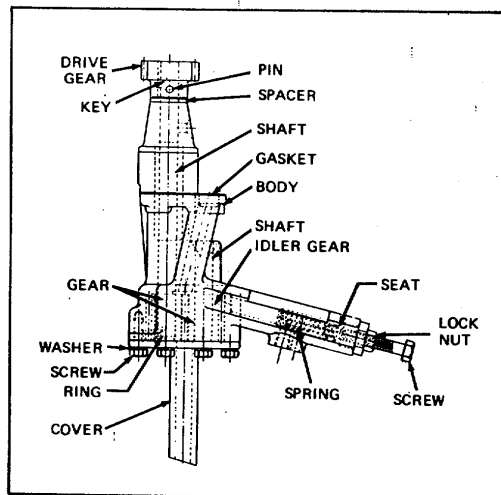

Figure 6-22. Oil Pump
- (1) Remove pin (Figure 6-22) from drive gear, pull gear from shaft and remove key.
- (2) Remove screws and pump cover.
- (3) Remove idler gear and shaft.
- (4) Pull main shaft down through pump body to remove it.
- (5) Press idler gear shaft out of gear.
- (6) Press main shaft through oil pump gear approximately $\frac{3}{8}$ inches and remove snap ring. Then press shaft out of gear.